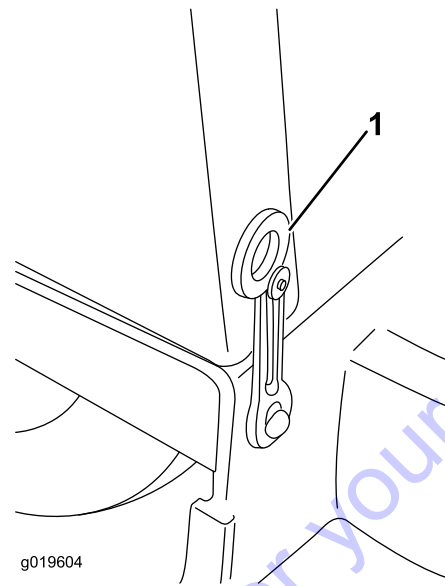

Figure 15
2. Unhook the cowl latches (Figure 15) and remove the cowl.